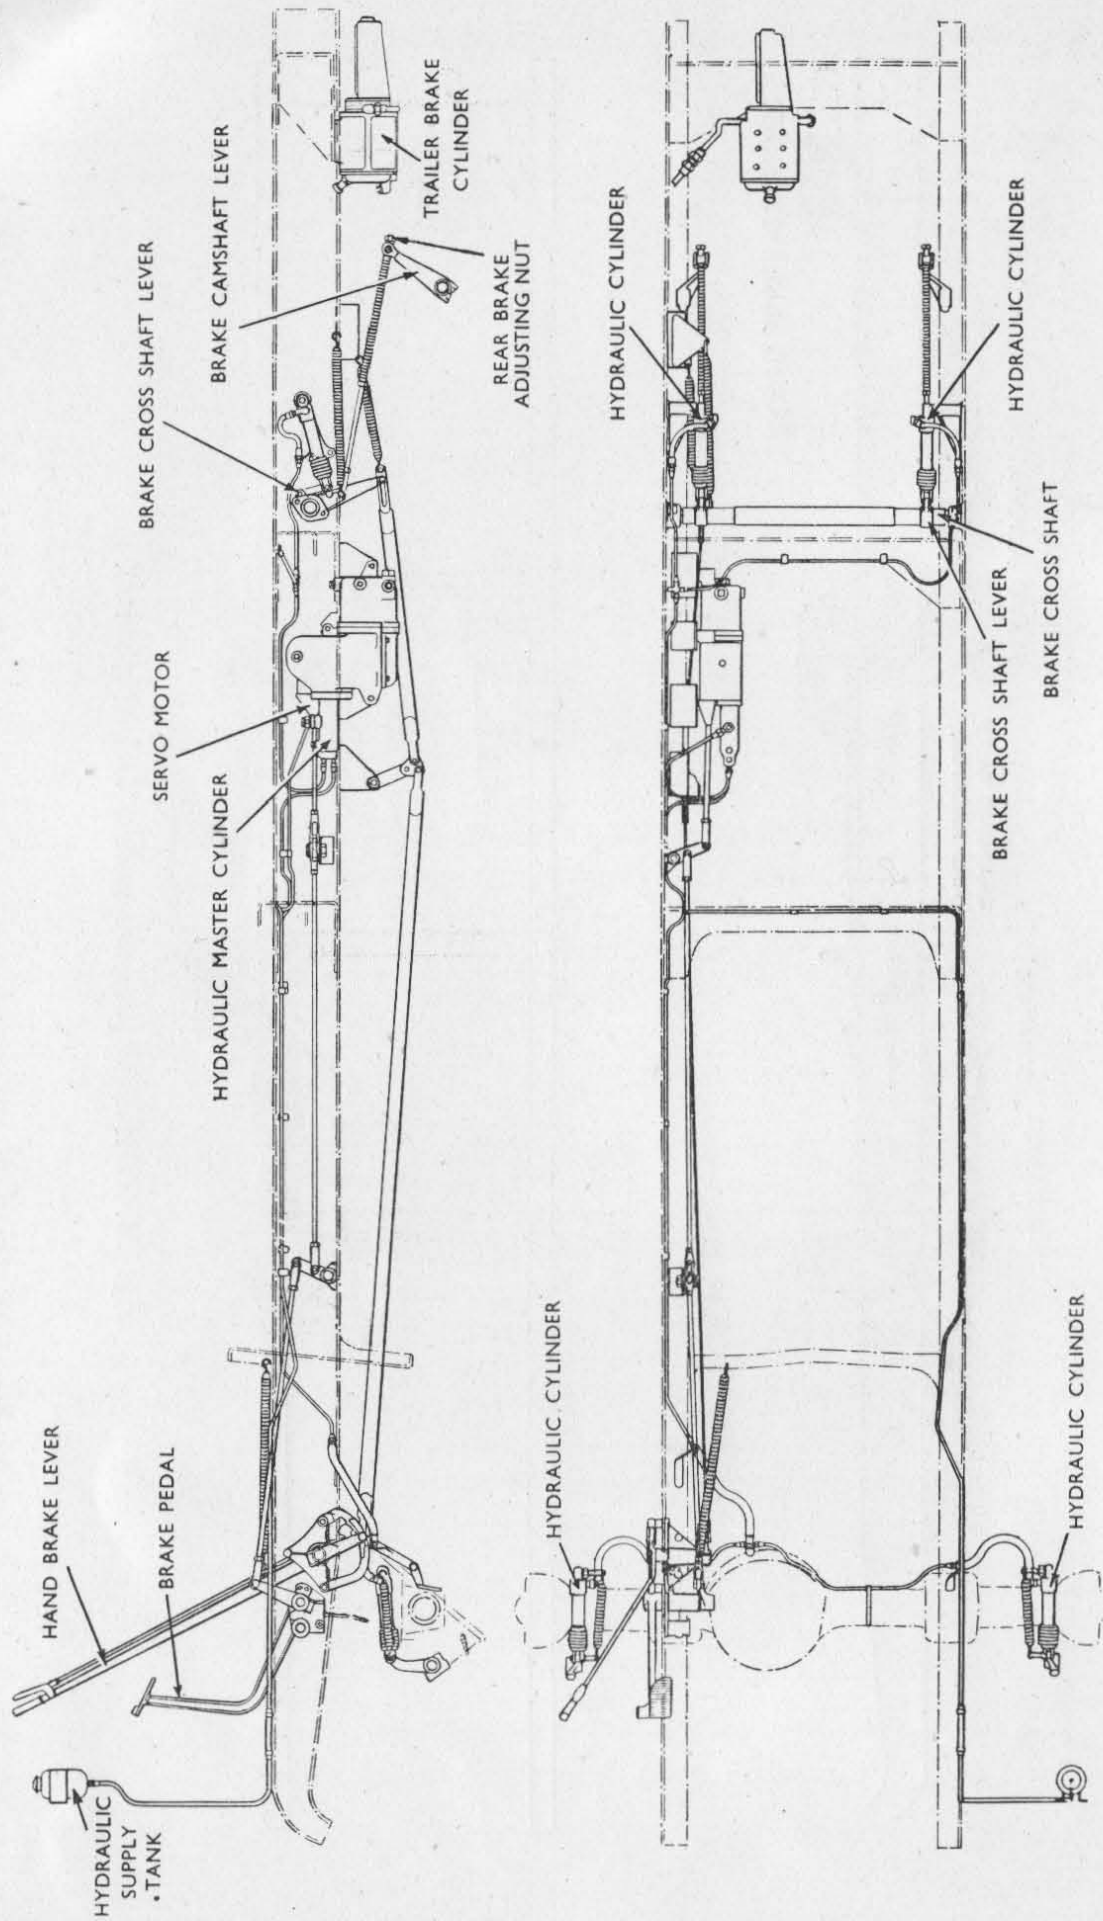

Fig. 35. Arrangement of Brake Gear (Hydraulic and Mechanical Rigging)
- (H) HYDRAULIC SUPPLY TANK (ON FRONT DASH) (*see Fig. 35*).